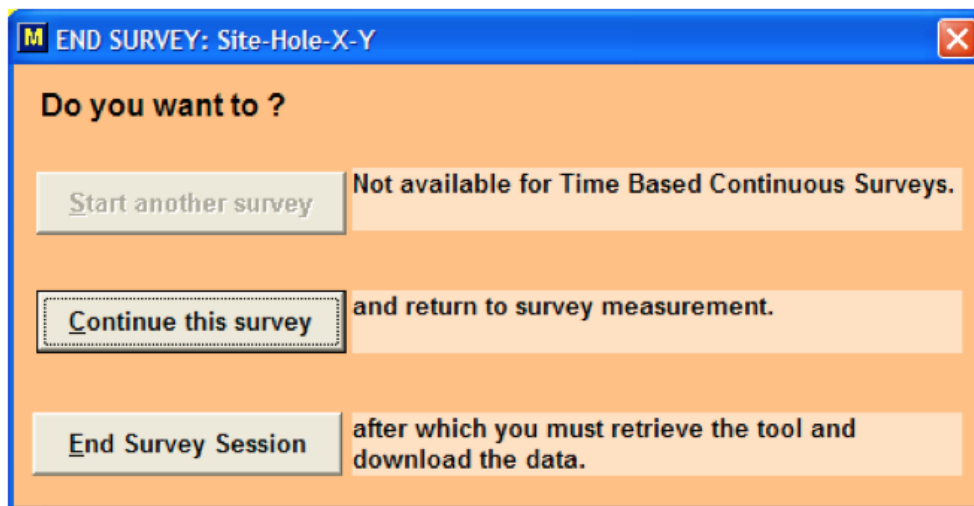

Figure 10 End survey confirmation screen
2. A confirmation screen appears to make sure you really want to finish the survey (Figure 10). Select **End Survey Session**.